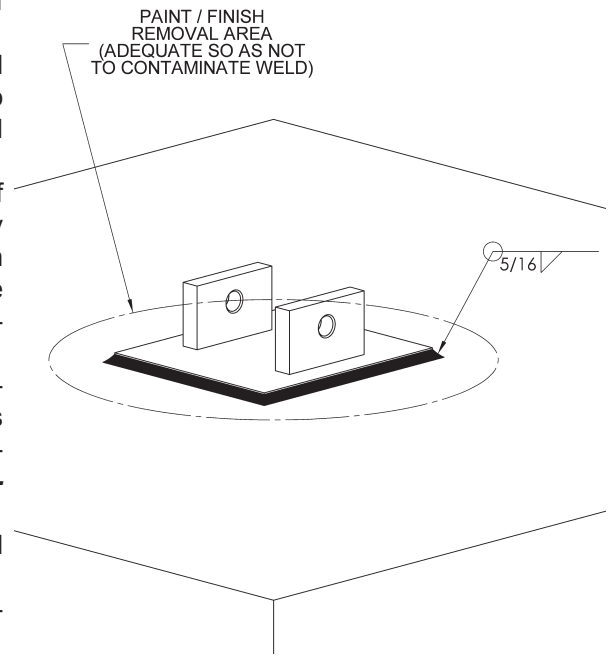

Figure 04
4. Once the base plate is positioned where desired, weld in place with a continuous 5/16" (8 mm) leg fillet weld (see Figure 04). The weld must be continuous around the entire plate with no interruptions or gaps. Maintain sufficient penetration and cleanliness of the weld (**Note: When welding on electrical transformers, follow special guidelines below**).